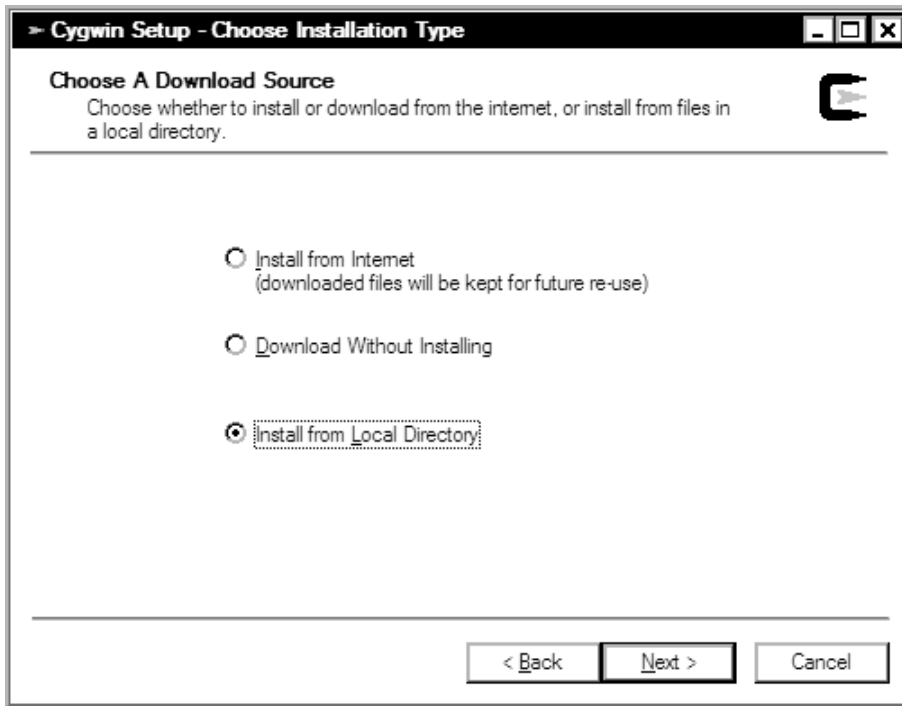

Figure 2-7. *Cygwin installation: installing using the downloaded packages*
11. After the files have downloaded, run the installation program again, but install the files from the local cache. Run the setup program again, and this time, select Install from Local Directory and click Next (see Figure 2-7).